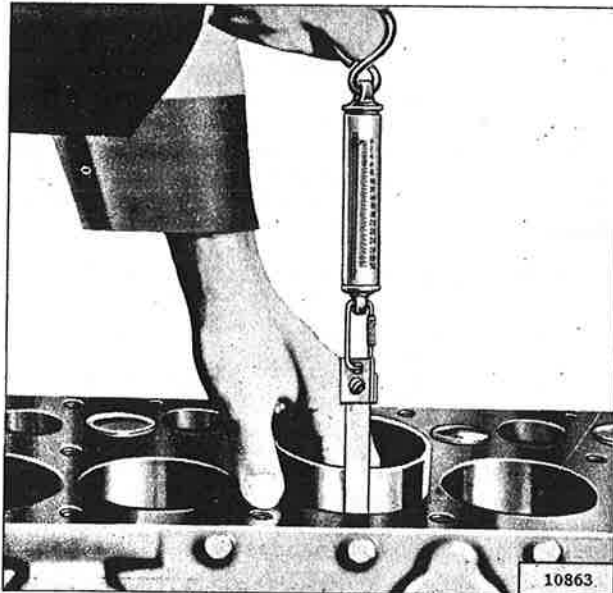

FIG. 35—PISTON FITTING
a. After cylinder bores have been carefully checked for out-of-round and taper (Par. D-32), check fit of each piston to cylinder bore with block and pistons clean and dry and at approximately 70°F. [21°C.] by using Piston Fitting Gauge And Scale tool C-690 as shown in Fig. 35. Use a .003" [0,076 mm.] thickness gauge $\frac{3}{4}$ " [19 mm.] wide. The piston is fitted upside down in the block to facilitate the operation. The gauge must extend the full length of the piston on the thrust side (opposite side from slot in piston skirt). Scale should register 5 to 10 pounds [2,3 a 4,5 kg.] pull to remove the thickness gauge from between cylinder wall and piston. Excessive pull indicates need for a slightly smaller